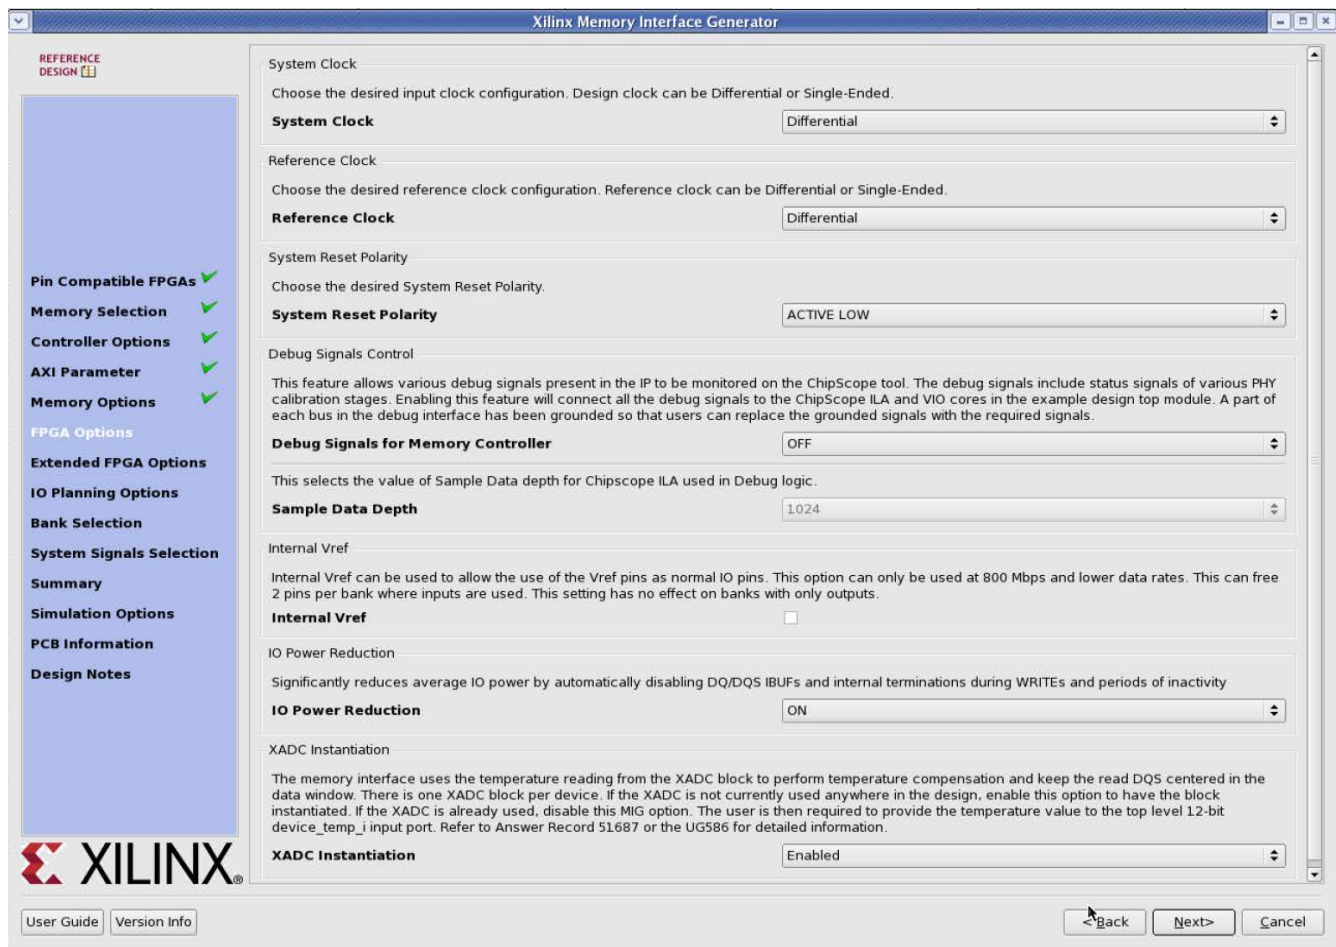

Figure 1-22: FPGA Options
Figure 1-22 shows the FPGA Options page.
- sys\_clk** – This is the system clock input for the memory interface and is typically connected to a low-jitter external clock source. Either a single input or a differential pair can be selected based on the System Clock selection in the FPGA Options page (Figure 1-22). The sys\_clk input must be in the same column as the memory interface. If this pin is connected in the same banks as the memory interface, the MIG tool selects an I/O standard compatible with the interface, such as DIFF\_SSTL15 or SSTL15. If sys\_clk is not connected in a memory interface bank, the MIG tool selects an appropriate standard such as LVCMOS18 or LVDS. The XDC can be modified as desired after generation.
- clk\_ref** – This is the reference frequency input for the IDELAY control. This is a 200 MHz input. The clk\_ref input can be generated internally or connected to an external source. A single input or a differential pair can be selected based on the System Clock selection in the FPGA Options page (Figure 1-22). The I/O standard is selected in a similar way as sys\_clk.
- **sys\_rst** – This is the system reset input that can be generated internally or driven from a pin. The MIG tool selects an appropriate I/O standard for the input such as LVCMOS18 and LVCMOS25 for HP and HR banks, respectively. Default polarity of `sys_rst` pin is active-Low. Polarity of `sys_rst` pin varies based on "System Reset Polarity" option chosen in **FPGA Options** page (Figure 1-22).